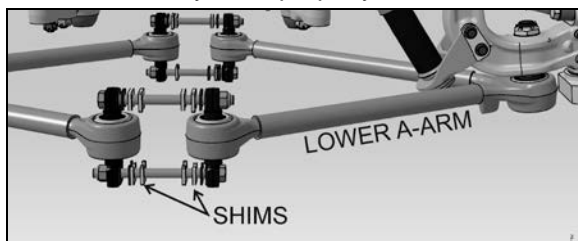
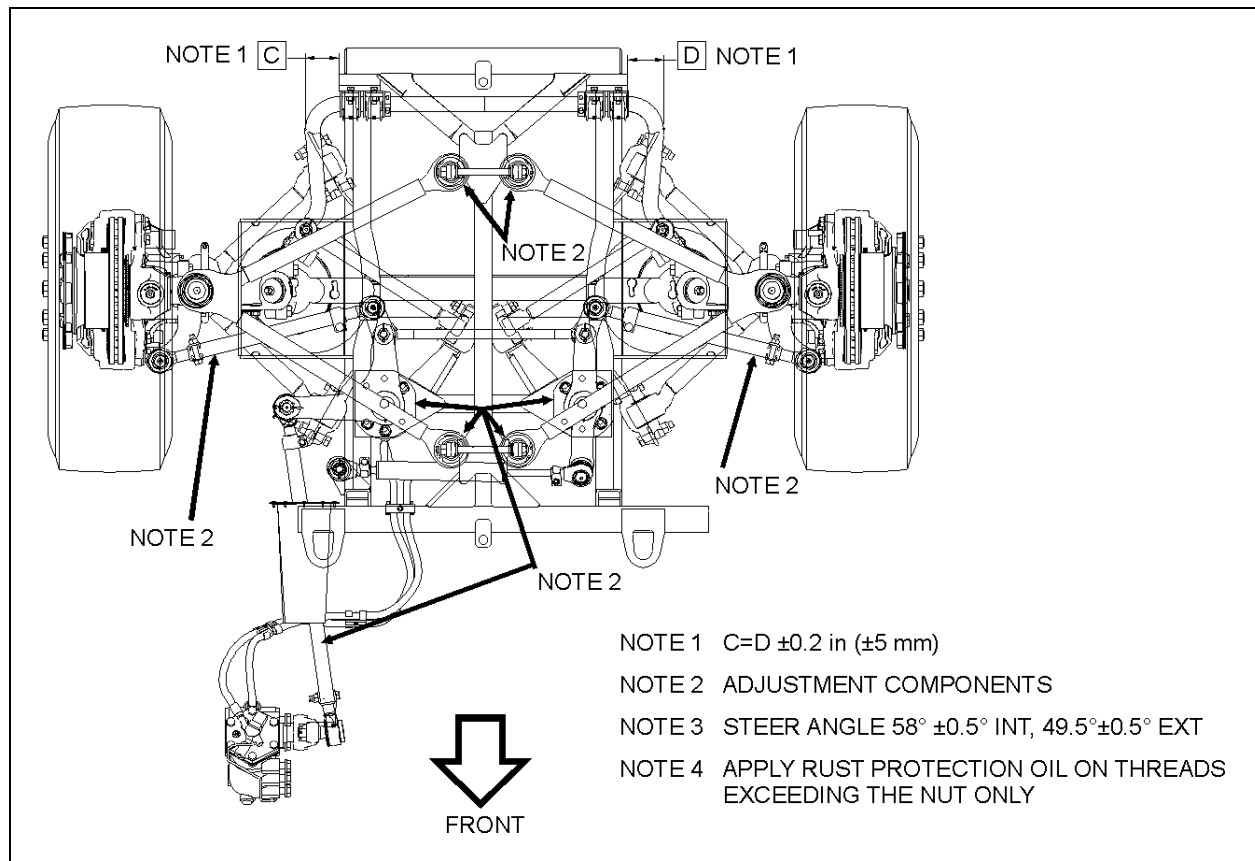
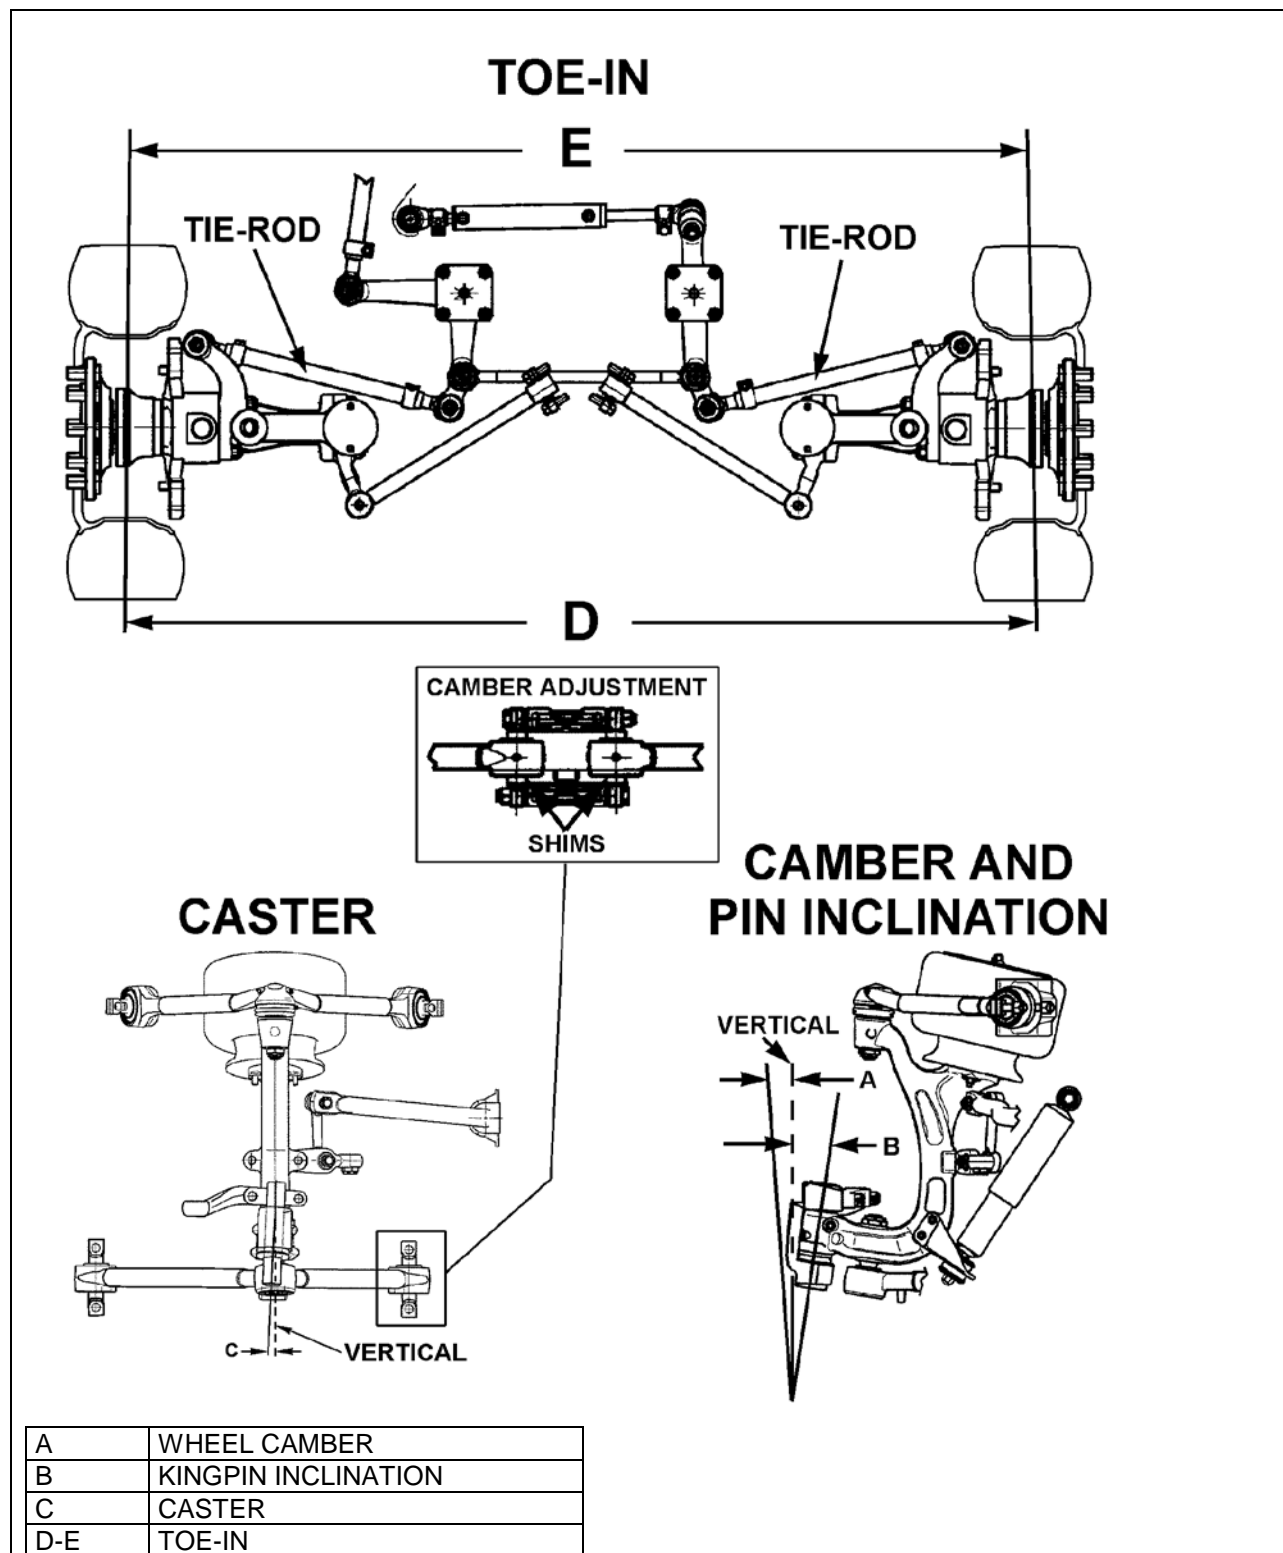

FIGURE 22: SHIMS AT THE LOWER A-ARMS
FIGURE 25: IFS ADJUSTMENT
FIGURE 26: FRONT END ALIGNMENT DIAGRAM
Wheel Camber: Camber is the number of degrees the top of the wheel is tilted inward or outward from a true vertical (Figure 26).
Wheel Toe-In: a slight forward convergence given to the wheels of motor vehicles to improve steering and equalize tire wear (D minus E, Figure 26).
Kingpin Inclination: The inclination of the kingpin from vertical toward the center of the vehicle at the top and outward at the bottom (B, Figure 26).
Front Axle Caster: The inclination of the kingpin from vertical in the fore and aft direction (C, Figure 26).
Shim the lower A-arm to adjust camber (Figure 22 & FIGURE 25). If the kingpin inclination is incorrect, the wheel kingpin assembly may be bent and therefore should be replaced.
- Using a pipe wrench, turn the tie rod tubes to obtain the toe-in measurement specified in step 5 under paragraph "Toe-in Check" (Figure 26).
Caster variations may be caused by bent upper suspension A-arm, lower suspension A-arm, or kingpin housing. Caster should be adjusted with shims. Precision instruments should be used to measure caster. Shim bell crank and idler arm to adjust caster (Figure 26).
See FIGURE 25 & Figure 26.